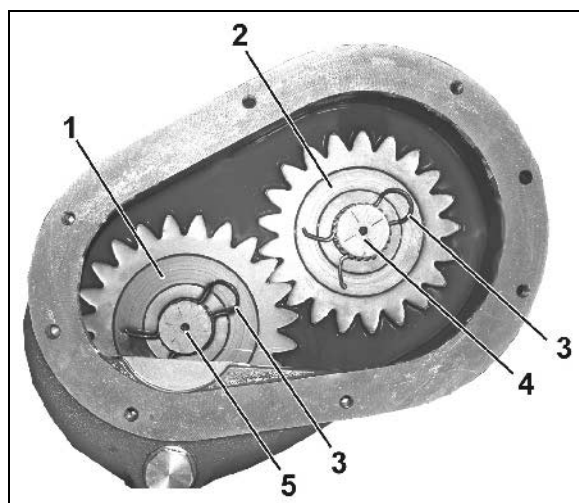

Fig. 36
The gear wheels (Fig. 36 /1) are kept in place and secured against axial movement on the shaft stubs by retaining springs (Fig. 36 /2).
5. Remove the retaining springs (Fig. 36 /2).
6. Pull the gear wheels off the stubs of the drive shaft (Fig. 36 /3) and the auxiliary shaft (Fig. 36 /4).
8. Install the retaining springs (Fig. 36/2) on both shafts.